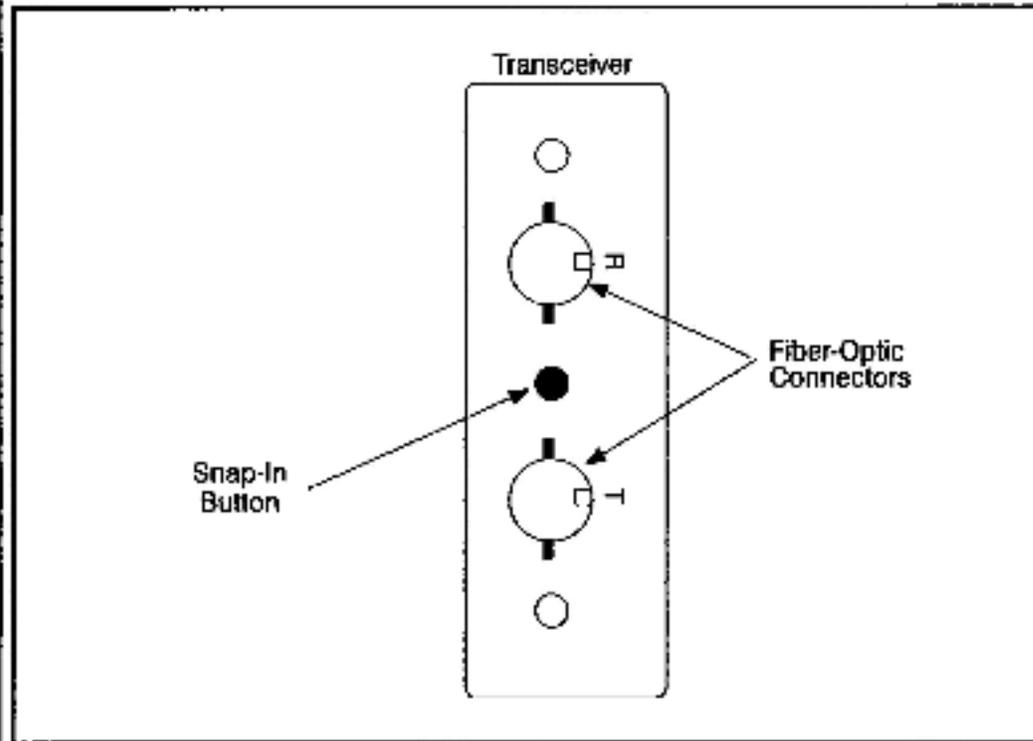

Figure L3.1 - Potentiometer Location
- Step 3. The received signal duty cycle should be 50%. If it is not, then use the potentiometer on the transceiver to adjust it. The potentiometer is located between the two fiber-optic connectors as shown in figure L3.1. Remove the snap-in button to access and adjust the potentiometer.